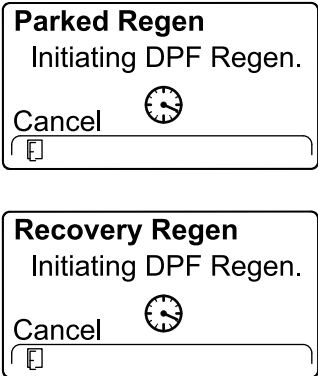

Figure 55
5. The InfoCenter displays the INITIATING DPF REGEN message (Figure 55).